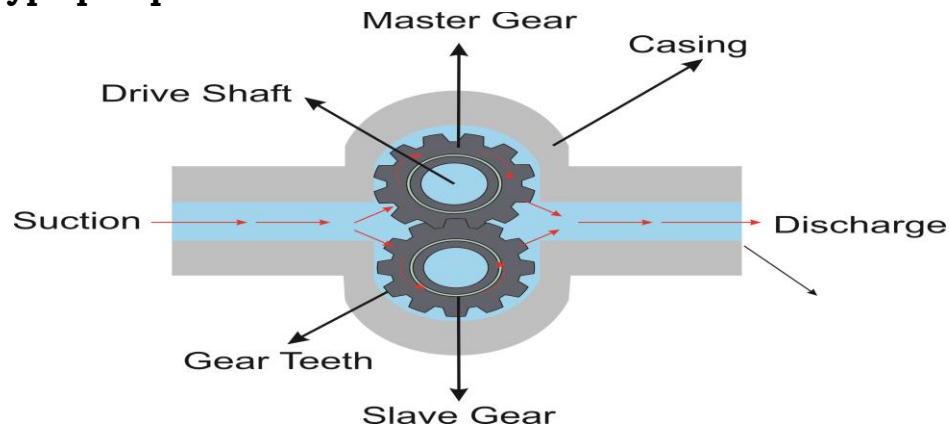

Fig.2.54: Gear type pump
2. Pump: Basically, the purpose of the pump is to push the hydraulic fluid and create flow. Three types of pumps are used in hydraulic systems, hereunder you know about them in figures 2.54, 2.55, and 2.56.